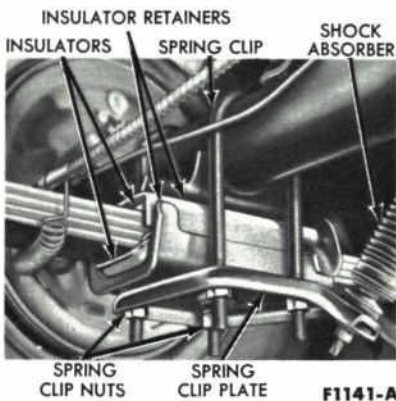

FIG. 113—Rear Spring Center Mounting
2. Lower the rear axle slightly to reduce some of the spring load; then remove the spring clip (U-bolt) nuts, clips, and spring clip plate (Fig. 113). Remove the lower insulator and retainer.
2. Position the spring and front hanger assembly to the underbody, and install the hanger mounting bolts (Fig. 114). Do not tighten the bolts at this time. Install the upper insulator and retainer on the spring with the retainer flange forward (Fig. 113).